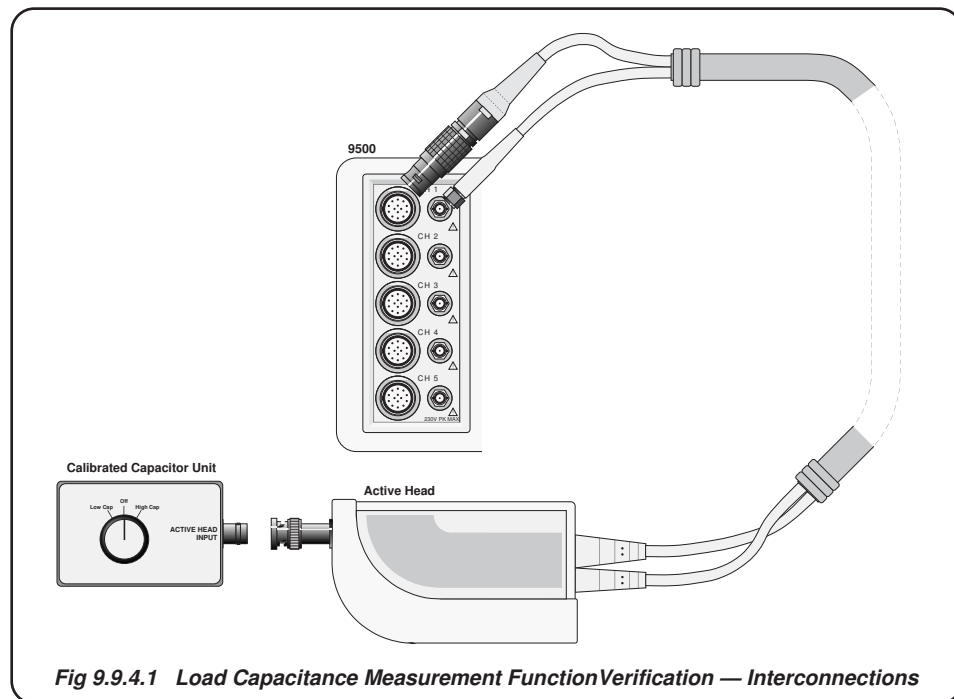

Fig 9.9.4.1 Load Capacitance Measurement Function Verification — Interconnections
- 3. Connections Ensure that the 9500B is connected to the Capacitance unit (or individual capacitors in turn) as shown in Fig. 9.9.4.1, and that both instruments are powered on and warmed up.